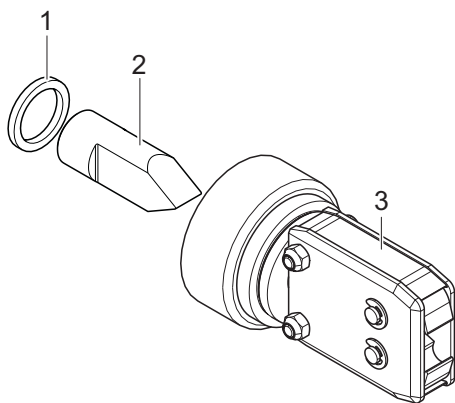

Fig. 30: Pincer head set
- Spacer washer (*Fig. 30/1*)
- Plunger (*Fig. 30/2*)
- Pincer head (*Fig. 30/3*)